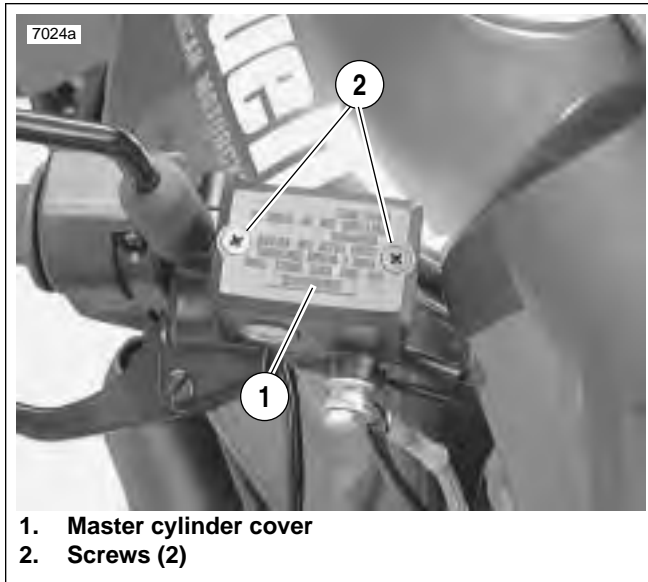

Figure 2-44. Master Cylinder Cover
6. See Figure 2-44. Remove both master cylinder cover screws (2). Remove master cylinder cover (1) and gasket.
9. See Figure 2-44. Install master cylinder cover (1) and cover gasket with two screws (2). Tighten to 9-13 **in-lbs** (1.0-1.5 Nm).